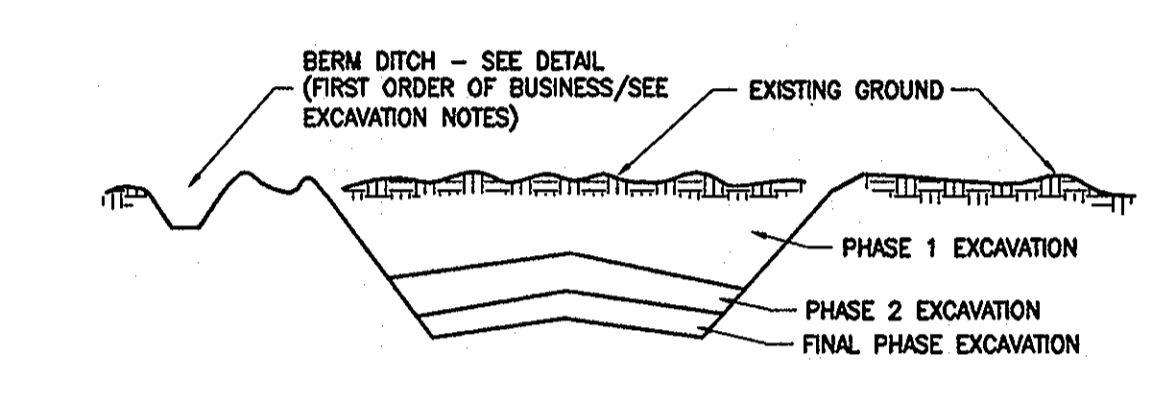

Figure 4 Incremental Stabilization - Cut
a. Excavate and stabilize all temporary swales, side ditches, or berms that will be used to divert runoff around the fill. Construct Slope Silt Fence on low side of fill as shown in Figure 4, unless other methods shown on the plans address this area...